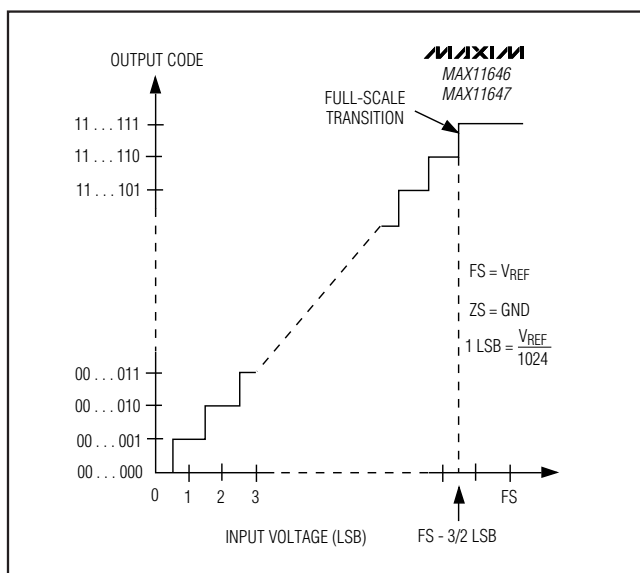

Figure 12. Unipolar Transfer Function
Output data coding for the MAX11646/MAX11647 is binary in unipolar mode and two's complement in bipolar mode with 1 LSB = (VREF/2N) where N is the number of bits (10). Code transitions occur halfway between successive-integer LSB values. Figures 12 and 13 show the input/output (I/O) transfer functions for unipolar and bipolar operations, respectively.